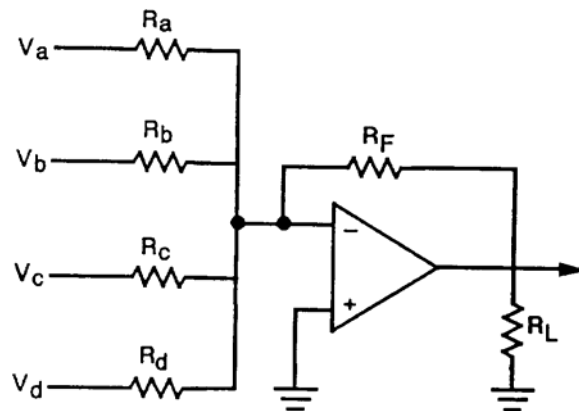

Figure Q-38. Summing Circuit
f. The summing circuit (Figure Q-38) algebraically adds the inputs across a resistor network and gives the sum as the output. An example of its use would be in a color generator.